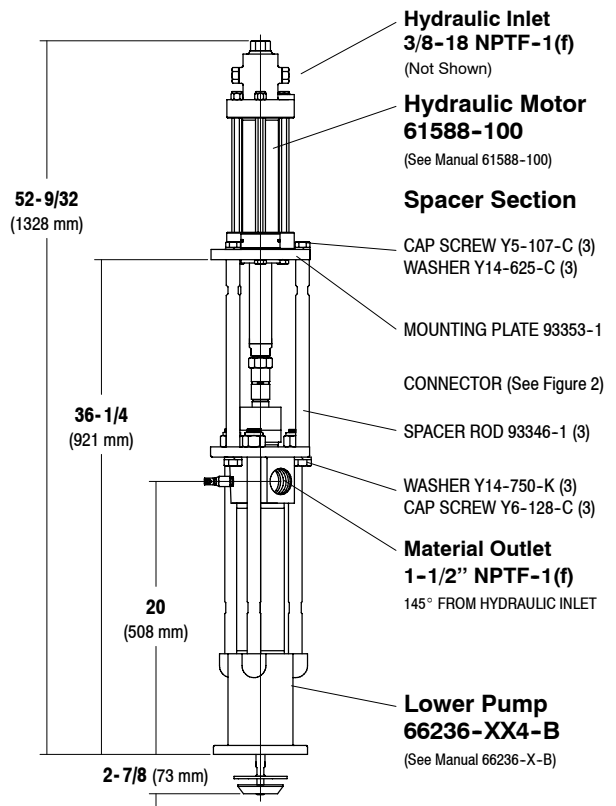

FIGURE 1
- Remove the top three screws and washers from the three spacer rods (see figure 1).